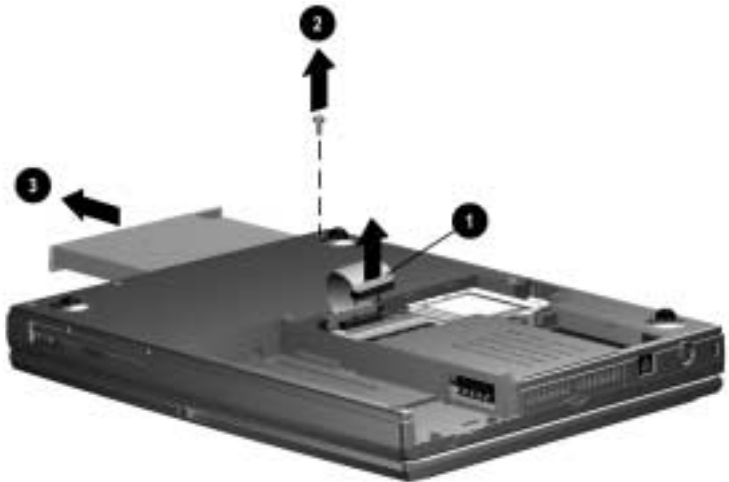

Figure 5-8. Removing the CD-ROM Drive
3. Disconnect the CD-ROM drive cable from the system board ❶ (Figure 5-8).
4. Remove the screw securing the CD-ROM drive to the base assembly ❷.
5. Push on the back of the CD-ROM drive and slide the drive to the left ❸.